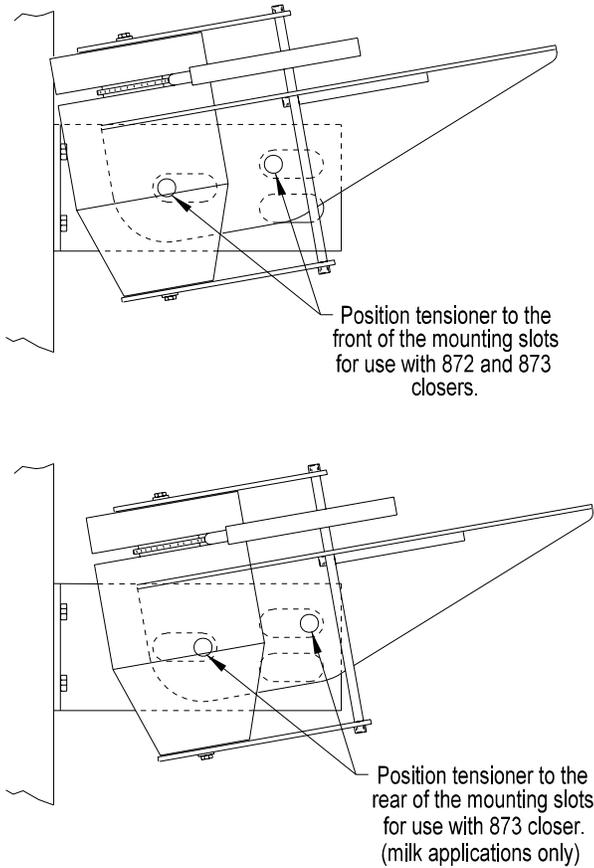

Figure 2.2
B. MOUNTING THE BAG TENSIONER: Figure 2.2 and 2.3